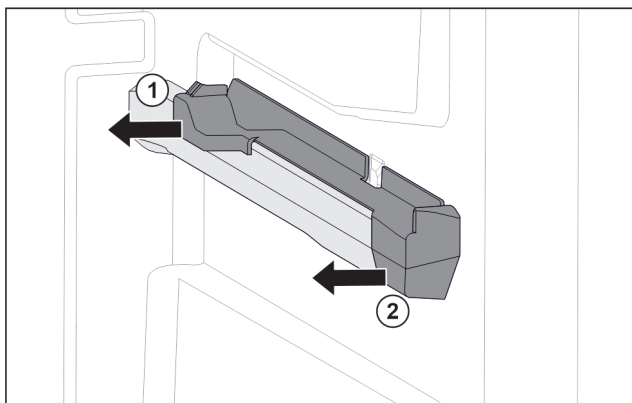

Fig. 153 Attachment on the right moulded rib
- Pull off attachment at the back sideways. Fig. 153 (1)
- Pull off attachment at the front sideways. Fig. 153 (2)